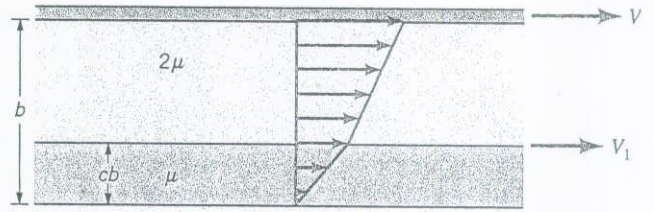

FIGURE P1.60
1.60 Two flat plates are oriented parallel above a fixed lower plate as shown in Fig. P1.60. The top plate, located a distance b above the fixed plate, is pulled along with speed V . The other thin plate is located a distance cb , where $0 < c < 1$, above the fixed plate. This plate moves with speed V_1 , which is determined by the viscous shear forces imposed on it by the fluids on its top and bottom. The fluid on the top is twice as viscous as that on the bottom. Plot the ratio V_1/V as a function of c for $0 < c < 1$.